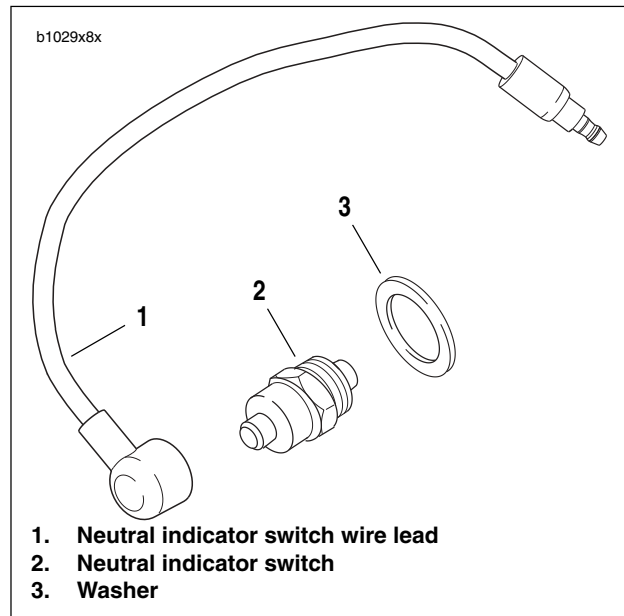

Figure 7-74. Neutral Indicator Switch
3. See Figure 7-74. Remove wire lead (1) from neutral indicator switch (2).
4. Remove neutral indicator switch and washer (3).
- a. Apply a light coating of LOCTITEx 243 (blue) to **new** neutral indicator switch (2) threads.
- b. Install washer (3) over neutral indicator switch (2) threads.
- d. Connect wire lead (1) to switch.